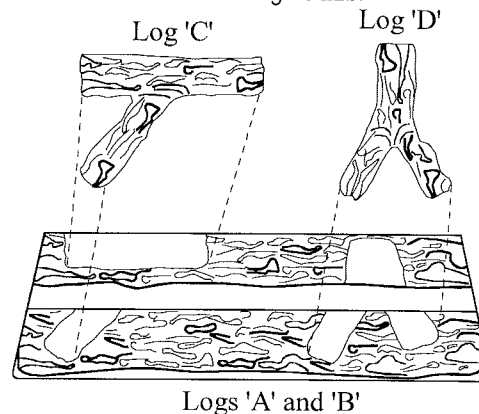
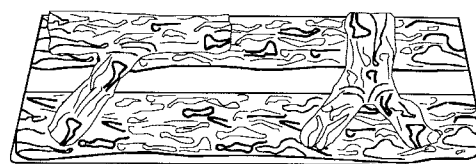

Figure 22a. Log placement.
Figure 22b. Completed log installation.
The **W38-DVM** is supplied with four (4) soft fibre logs. Logs "A" and "B" are permanently attached to a fibre base, which is pre-installed by the factory. To install the two small logs ("C" and "D"), simply place them onto their mating positions as shown in figure 22a below. When log set is installed it should look like figure 22b.